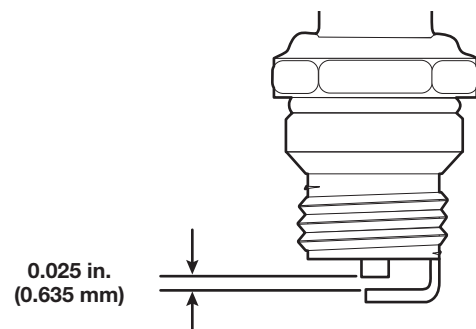

Fig. 31
4. Use a feeler gauge to set the air gap at **0.025 in. (0.635 mm)** (Fig. 31).